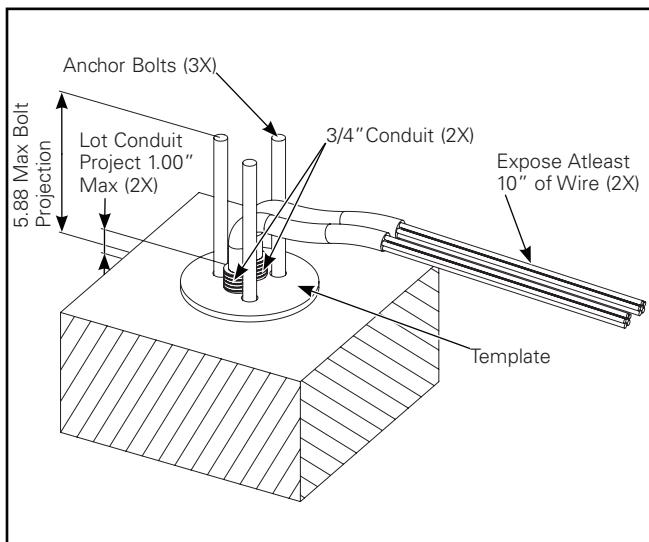

Figure 1.
### How to Install (Figure 1. - Figure 4.)
1. Install foundation anchors and conduit using supplied anchor template as illustrated. (Figure 1.)